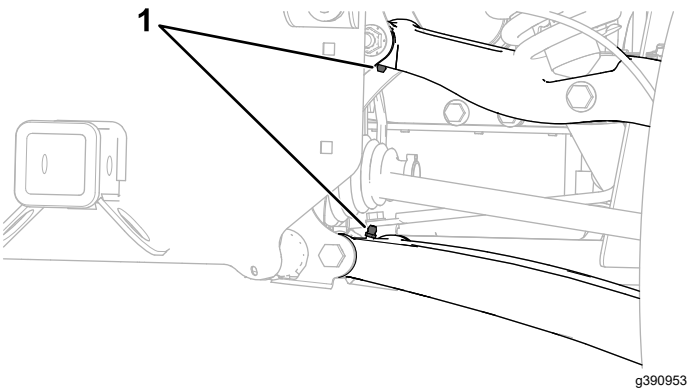

Figure 62
- **Rear control arm pivots (4);** refer to Figure 62